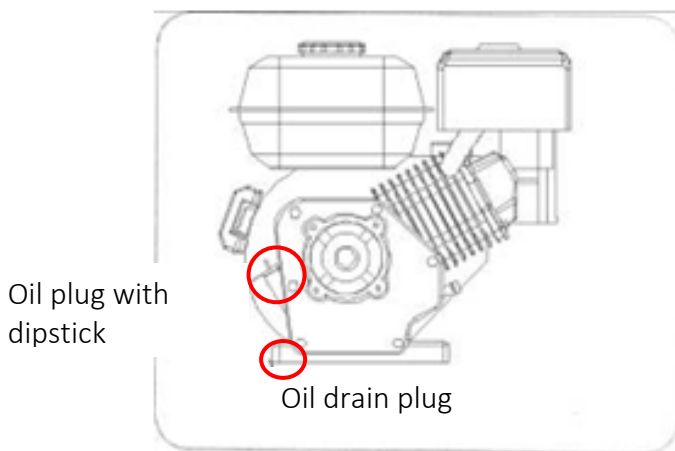

Fig. 28
2. Unscrew the oil plug with the dipstick and wipe the dipstick. See Figure 28.
1. Locate the oil drain plug, see Figure 28